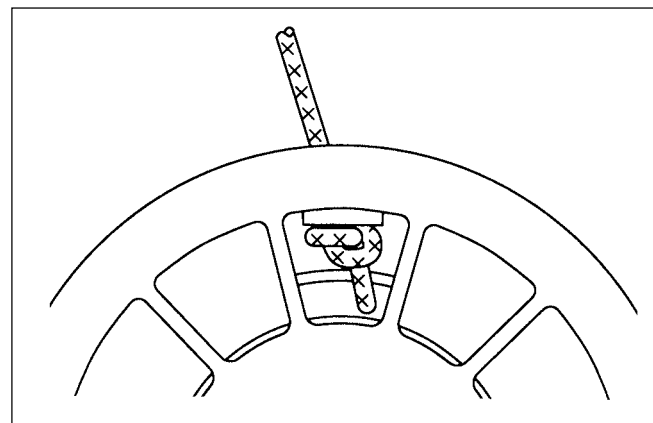

Fig. 10-8
-3: Put the rope end into the reel, whereby make sure that the rope end will not float. (Fig.10-8)